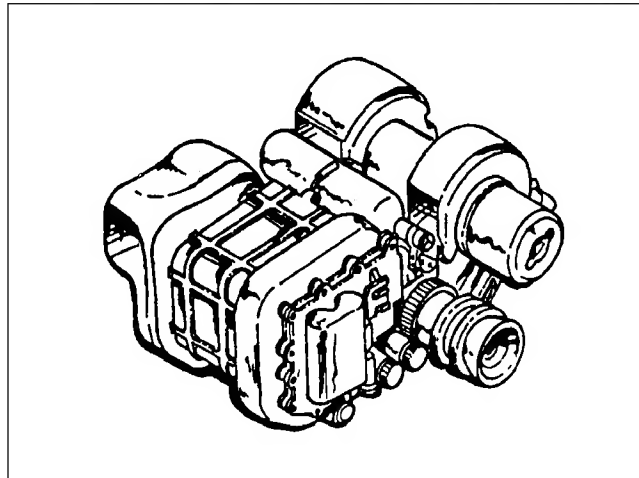

Figure 1-5. Nightsight.
b. **Nightsight.** At dusk, or anytime the light level drops below what is needed to use the daysight, Dragon gunners switch to the nightsight (Figure 1-5). It attaches to the round the same as the daysight.